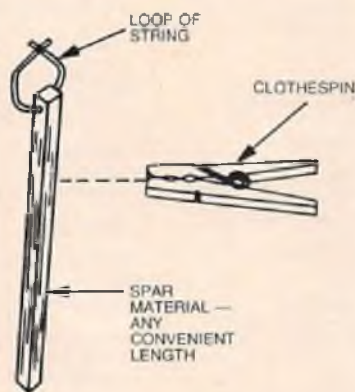

FIGURE 1
**NUMBER 1:** An easily mounted, yet mobile, clothespin holder is a length of spar hardwood. I used a 5mm x 5mm piece, with a hole at one end for a loop of string. A thumb tack, pin or nail can be located in your workshop building area from which to hang this handy building aid. See Figure 1.